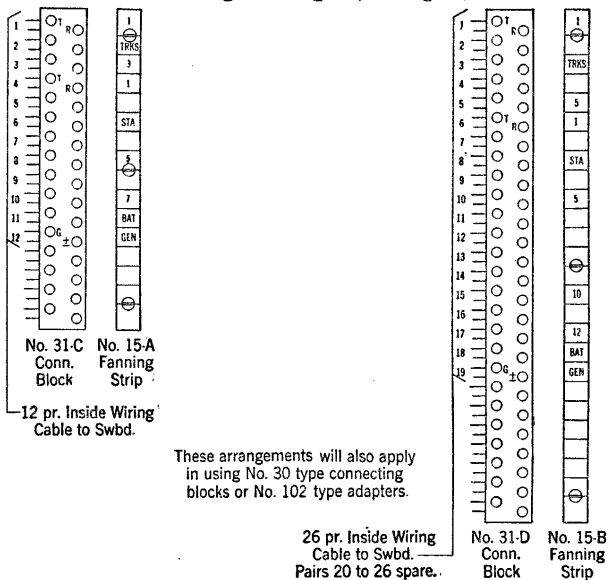

Fig. 1—Typical Arrangement at Cross-Connecting Terminal Box.
3.05 Place as indicated by Fig. 1. If available space in an existing terminal box is to be used, place the connecting blocks and fanning strips as covered in the section on installation of inside cross-connecting terminals of the Bell System Practices—Outside Plant Construction and Maintenance—(G Series).
3.06 Letter and number fanning strips and connecting blocks according to Fig. 1, using 3/16-inch rubber
3.09 In cases where, due to a moisture condition, lead covered cable is required instead of inside wiring cable as indicated by Fig. 1, it will be necessary to remove the cable sheathing between the P.B.X and a point where the cable enters a floor outlet, standpipe or similar fitting or where it first fastens to the baseboard, etc. Cover the conductors thus exposed with two layers of friction tape starting at a point on the sheathing approximately one inch beyond the butt and extending to a point on the cable form as shown in Figs. 2 and 3.
3.13 Form, fan and sew the end of the cable for connection at the cross-connecting terminal according to Fig. 1.